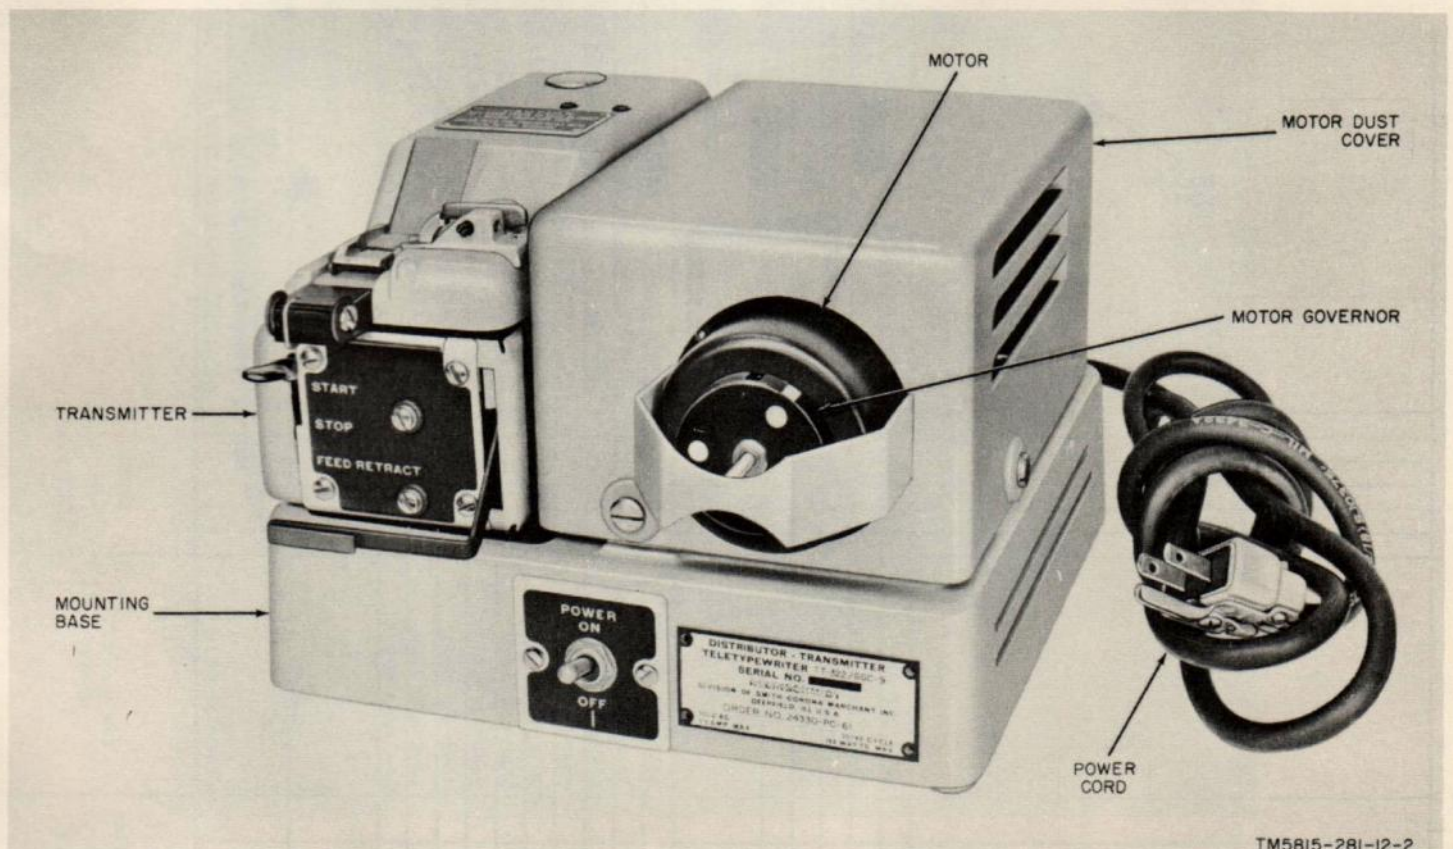

Figure 2. Distributor-Transmitter, Teletypewriter TT-322/GGC-9.
(fig. 2)
- (1) Set the POWER switch of the transmitter (fig. 2) to OFF.